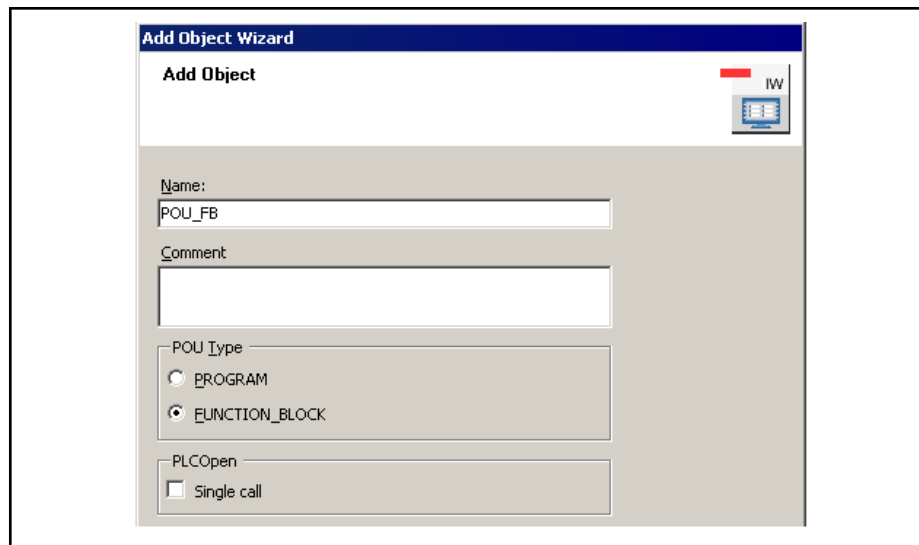

Fig. 6-22: Creating an Extended POU, function block type: "FUNCTION_BLOCK"
3. Enter the name and comment of the POU in the **Add Basic** or **Extended-POU** dialog (refer to) and select the function block type **PROGRAM** or **FUNCTION_BLOCK** (see fig. 6-22 "Creating an Extended POU, function block type: FUNCTION_BLOCK" on page 56).